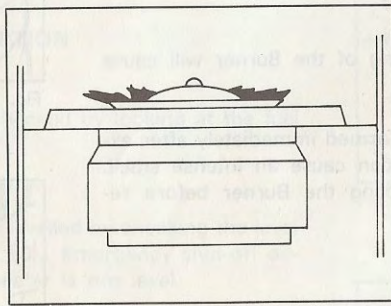

Fig. 15
- (1) When the heater is properly adjusted, the flame will burn about 1/4" to 1/2" over the top of the burner (Fig.15).
- (2) If the flame touches the wall of the heater, the wick is adjusted too high.
- (3) If the flame does not appear at the top of the burner, the wick is adjusted too low. Smoke and soot may result if the heater is operated with the flame too low.